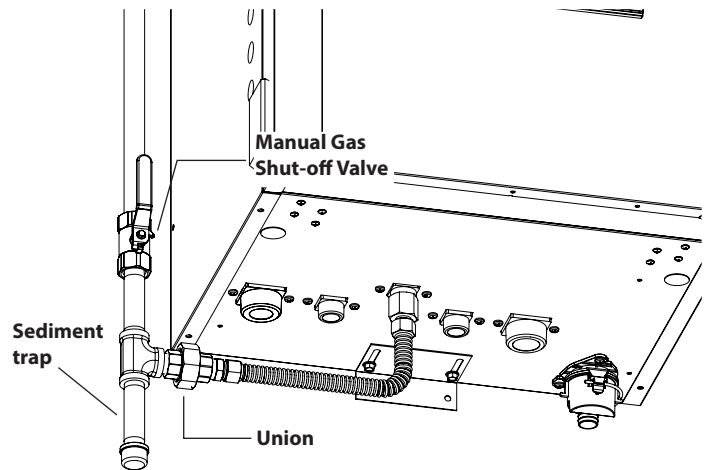

Figure 53 - Gas Line with Shut-Off and Sediment Trap Detail
- The National Fuel Gas Code (NFPA 54) requires that a sediment trap (drip leg) be installed in the gas line on boilers not so equipped. The drip leg must be accessible, a minimum of 3" in length, and not subject to freezing conditions. See Figure 53.
- A manual gas shut-off valve should be installed in the gas supply line close to the boiler. See Figure 53.